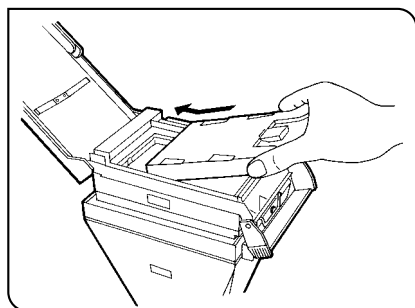

Fig. 27
4. Next, holding the film pack by the edges so that the safety cover side bearing the legend "SAFETY COVER... THIS SIDE FACES LENS" faces the camera's masking plate, insert the film pack against the plate spring beneath the back cover. (Fig. 27)